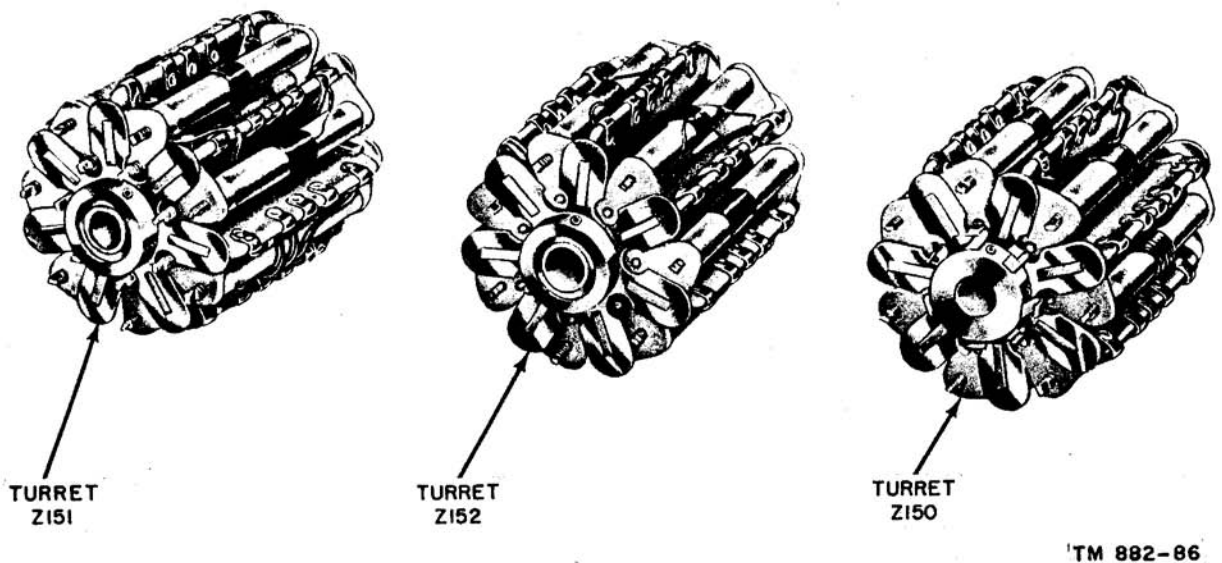

Figure 107. Radio Receiver R-220/URR, turrets, Z150, Z151, and Z152.
*b. Removal of Turrets* (figs. 107 and 108). Each turret is fastened to its shaft by two Bristo setscrews. To remove any one of the seven turrets, proceed as follows:
- (1) Loosen the two setscrews with a Bristo wrench. Do not remove the setscrews from the holes. The turret will now be free to rotate on the shaft.
- (2) Rotate the turret so that the contacts on the turret coil assemblies do not touch the wiper contacts on the frame.
- (3) Remove the turret by pulling it forward off the shaft.